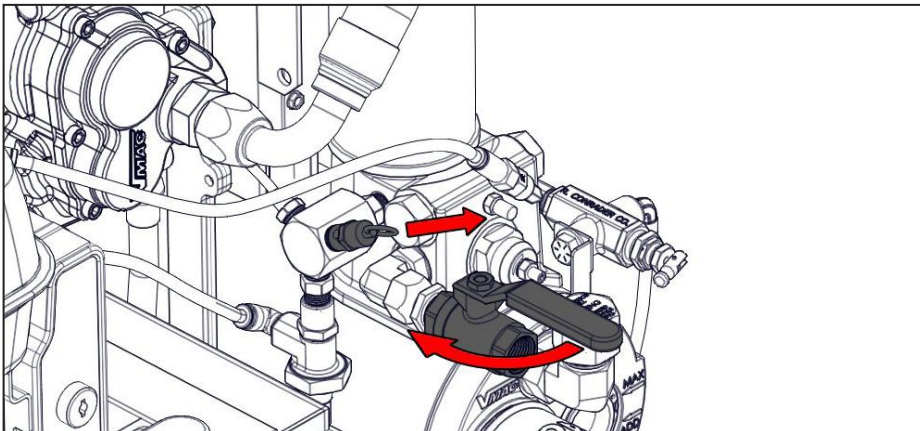

Figure 26 — Pressure relief valve (shroud removed for clarity)
- ☐ Open the ball valve or connect an air tool to the system to ensure all the stored air is released (Figure 26).
- ☐ Gently pull up on the ring on the pressure relief valve to confirm the system is depressurized (Figure 26).